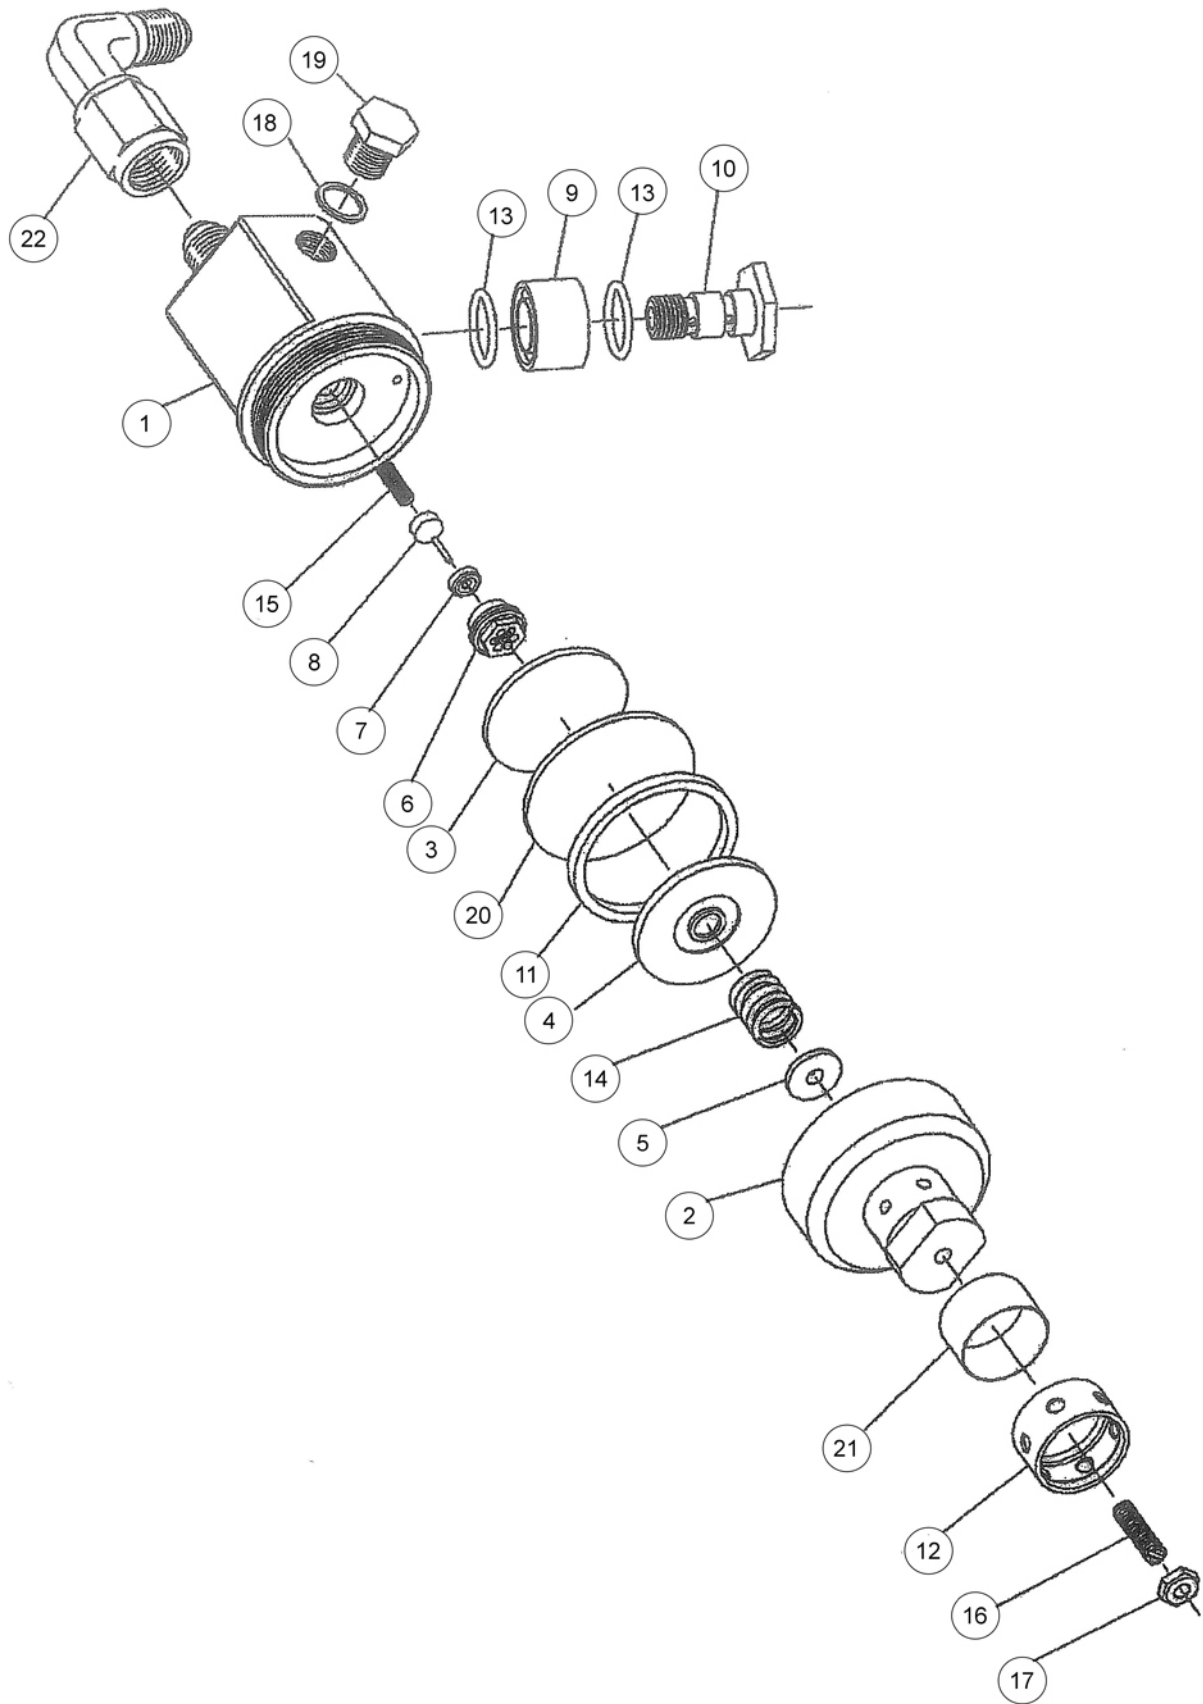

Fig 4.8 Annual Maintenance - Single Stage Regulator
6. Remove the banjo mounting bolt (Fig 4.8, Item 10) from the regulator.
10. Unscrew the end cap (Fig 4.8, Item 2) and remove the spring adjustment plate (Fig 4.8, Item 5) the spring support plate (Fig 4.8, Item 4) and the spring (Fig 4.8, Item 14).
11. Remove the slip ring (Fig 4.8, Item 11) the diaphragm (Fig 4.8, Item 20) and the diaphragm support plate (Fig 4.8, Item 3).
12. Unscrew and remove the valve seat retainer (Fig 4.8, Item 6) and valve seat (Fig 4.8, Item 7).
13. Lift out the valve pin (Fig 4.8, Item 8).
14. Remove the spring (Fig 4.8, Item 15).
15. Check the valve seat (Fig 4.8, Item 7) for wear and replace as necessary.
The valve seat (Fig 4.8, Item 7) is installed in the valve seat retainer (Fig 4.8, Item 6) with the chamfer end in the retainer and the square edge to the valve pin. (Fig 4.8, Item 8).